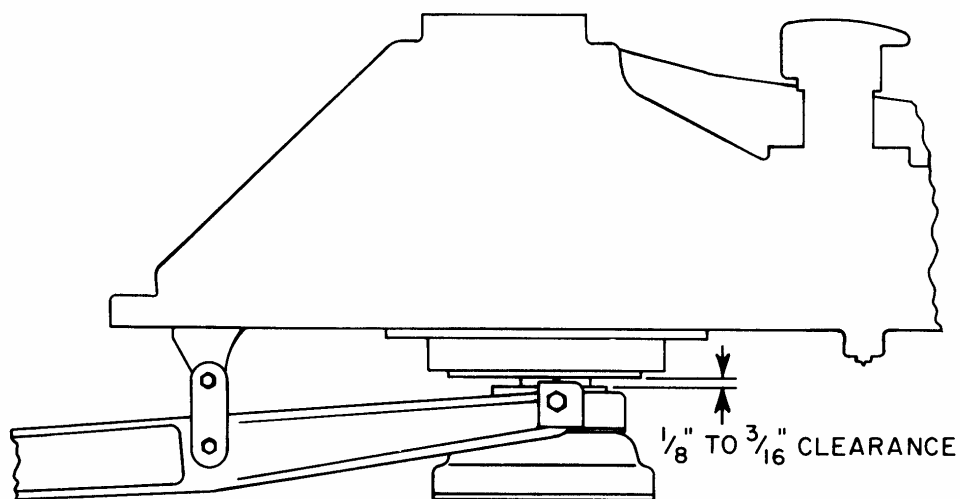

Figure 2. Required clearance between the collective bearing housing and the swashplate mount flange
- B. Inspect the rigging of the collective system at the bottom of the main rotor gearbox for 1/8" to 3/16" (.125" to .1875" / 3.18mm to 4.76mm) clearance between the collective bearing housing and the swashplate mount flange (See Figure 2). Refer to the applicable F-28/280 Series Maintenance Manual for the rigging procedures.